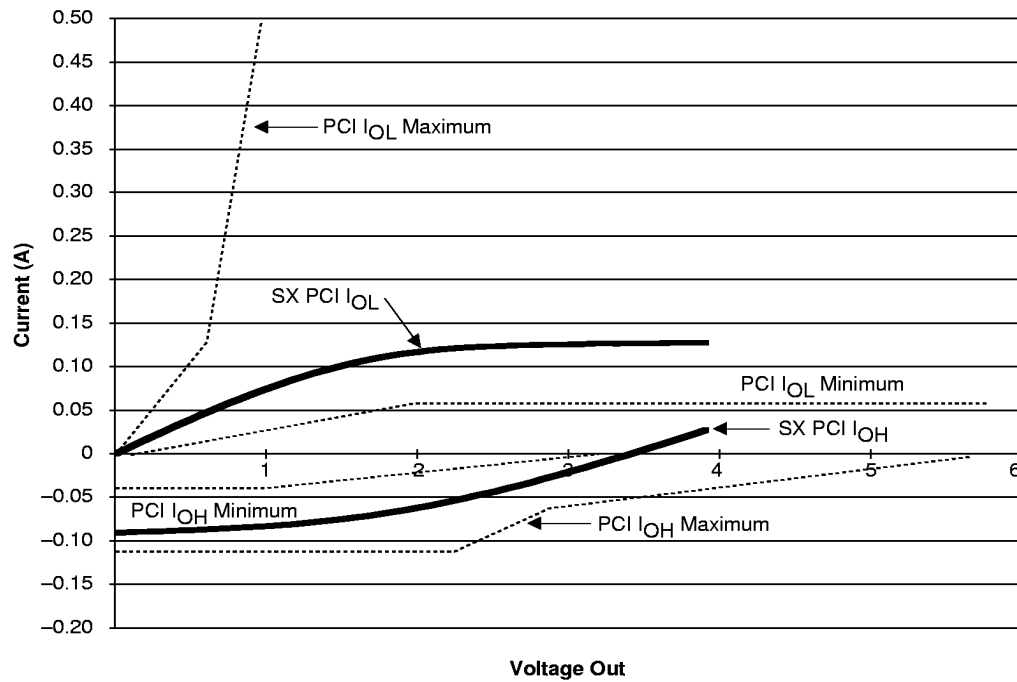

Figure 10 • 3.3V PCI Curve for A54SX16P Family
1. Refer to the VI curves in Figure 10. Switching current characteristics for REQ# and GNT# are permitted to be one half of that specified here; i.e., half size output drivers may be used on these signals. This specification does not apply to CLK and RST# which are system outputs. "Switching Current High" specification are not relevant to SERR#, INTA#, INTB#, INTC#, and INTD# which are open drain outputs.
2. Maximum current requirements must be met as drivers pull beyond the last step voltage. Equations defining these maximums (C and D) are provided with the respective diagrams in Figure 10. The equation defined maxima should be met by design. In order to facilitate component testing, a maximum current test point is defined for each side of the output driver.
Figure 10 shows the 3.3V PCI VI curve and the minimum and maximum PCI drive characteristics of the A54SX16P family.